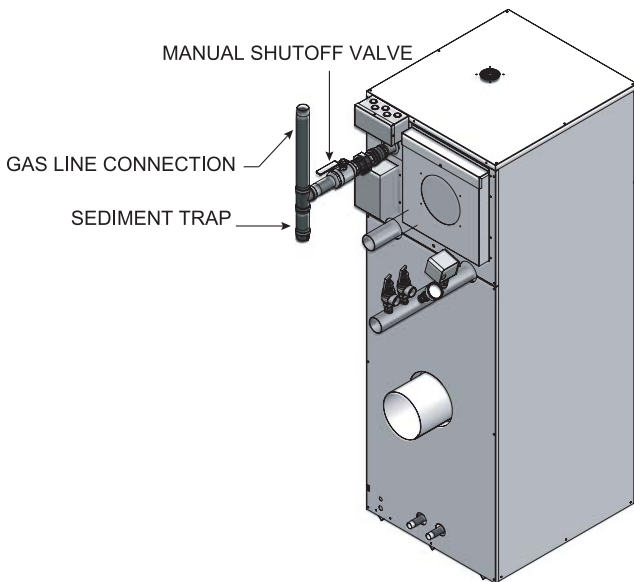

Figure 3-1_Gas Line Connection with Sediment Trap (Drip Leg) and Manual Main Gas Shutoff Valve
3. If an additional manual shutoff valve is required by local codes, install the valve on the outside at the gas supply to the appliance as shown in FIG. 3-1.
4. A sediment trap (drip leg) **MUST** be provided in the inlet of the gas connection to the appliance, see FIG. 3-1.
4. Install a sediment trap in the supply line to the unit's gas inlet (see FIG. 3-1).